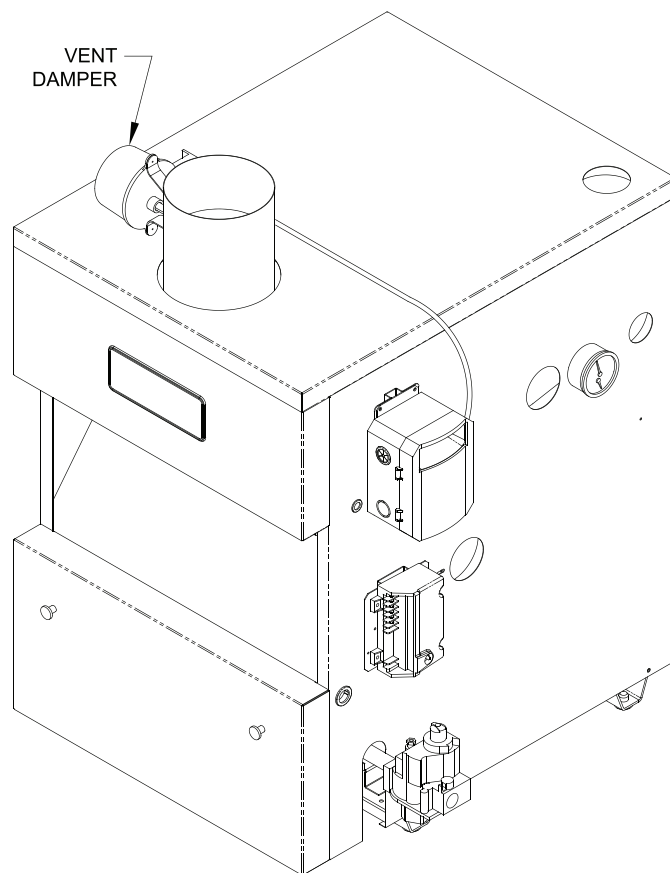

Figure 7: Vent Damper Installation
2. Mount the vent damper assembly onto the canopy/diverter. (Refer to Figure 7 and to instructions packed with the vent damper) for specific instructions). Do not modify either the draft hood or vent damper.